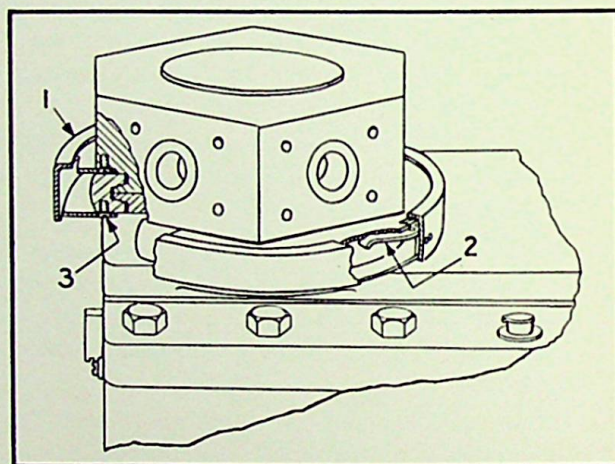

FIG. 42 Chip Protector for Hexagon Turret
If, however, it is desired to remove the chip protector guard (1), Fig. 42, rotate guard until spring clips (2) will pass through slots in guard (1). Lift guard over turret.